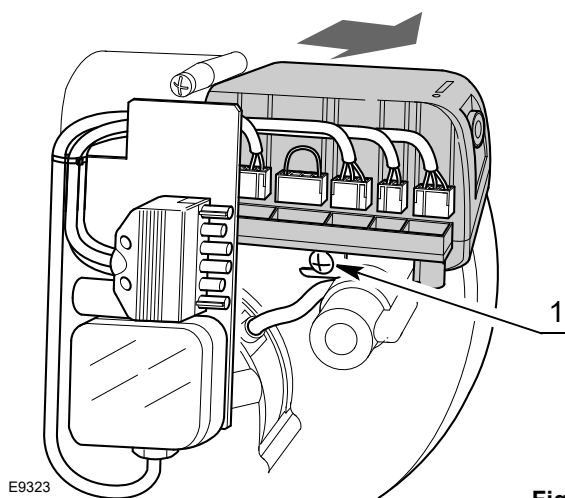

Fig. 19
- disconnect all the connectors connected to it, the 6-pin plug, the high voltage cables, and the earth wire (TB);
- loosen the screw 1)(Fig. 19) and pull the control box in the direction of the arrow.